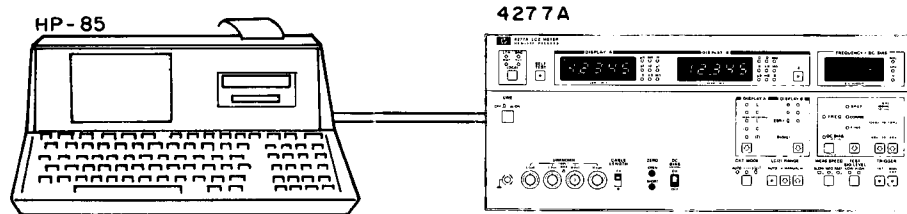

Figure 4-9. HP-IB Interface Test Setup.
2. Connect the 82937A HP-IB Interface between the HP-85 and the 4277A as shown in Figure 4-9, and install the I/O ROM in the ROM Drawer of the HP-85.